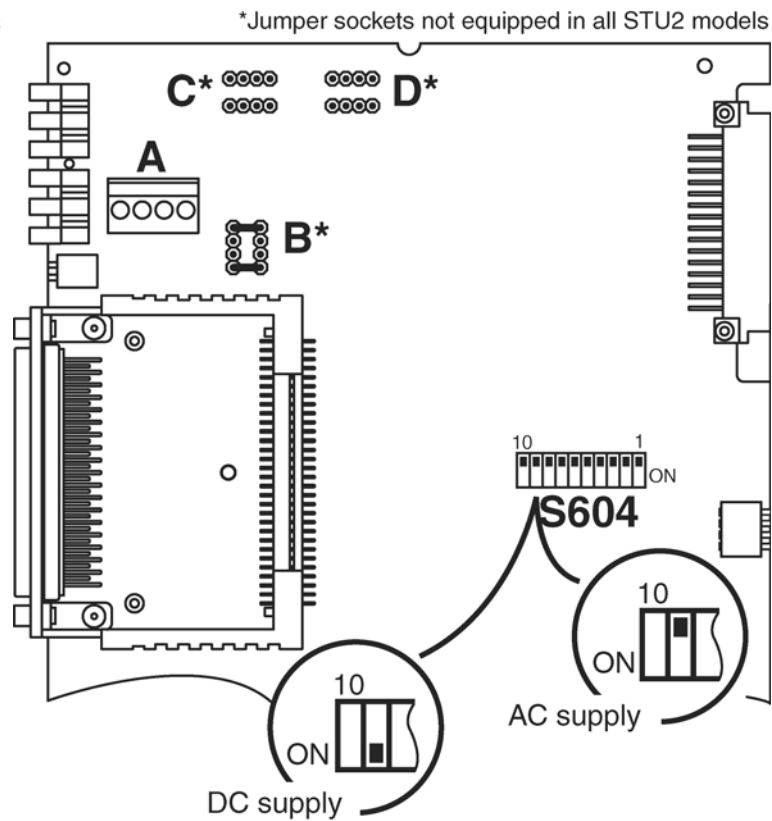

Fig. 2.80 Jumper settings: STU2 desktop unit local supply; AC or DC
6. Set the jumpers according to Chapter 2.9.4, Fig. 2.80 to battery supply (48 V_{DC}). If you are using a desktop you must set jumper S604-9 “ON”